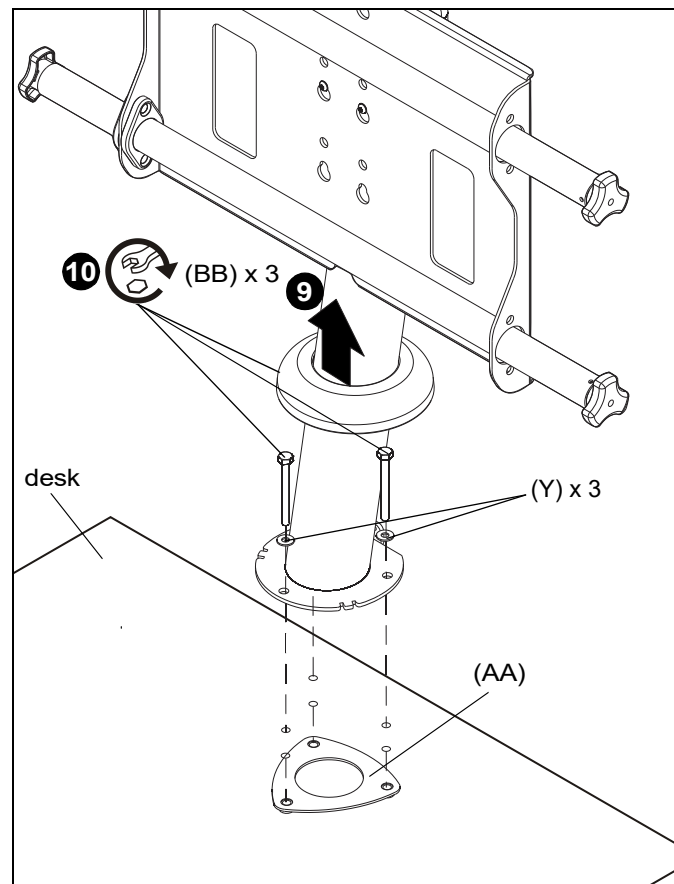

Figure 3
9. Lift base cover up to expose mounting holes on table stand (R). (See Figure 3)
10. Use three 1/4-20 x 2 1/2" tapping bolts (BB), three 1/4" washers (Y) and clamping plate (AA) to secure table stand (R) to table. (See Figure 3)